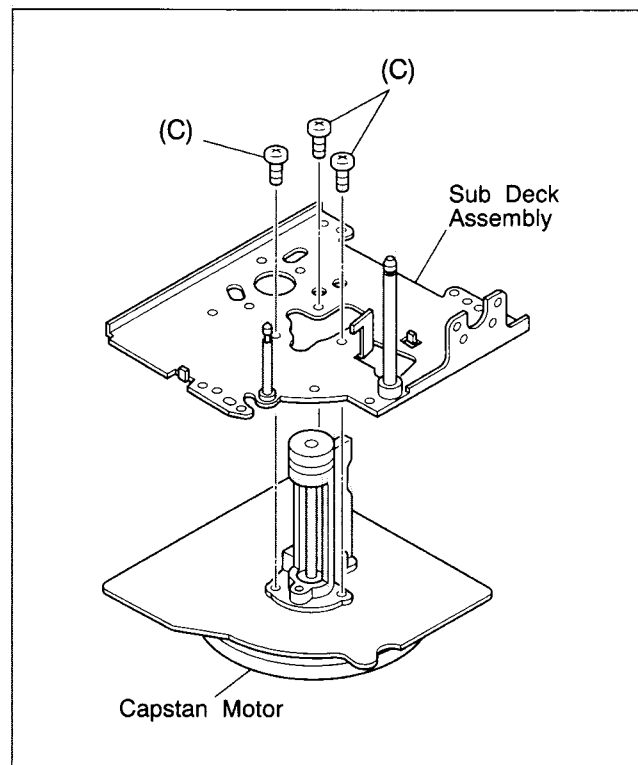

Fig.2-5-9
- (4) Take out 3 screws (C) and remove the capstan motor from the sub deck assembly as indicated in Fig.2-5-9.